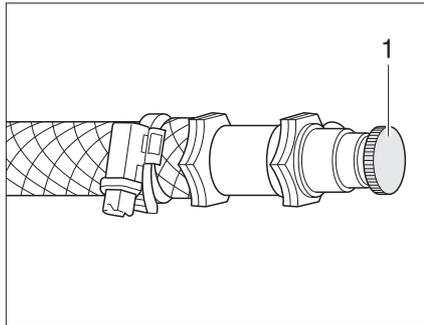

Fig. 173 Bleeding valve of hot-water heater
- Open the bleeding valve (Fig. 173,1) and leave it open until no more air escapes.